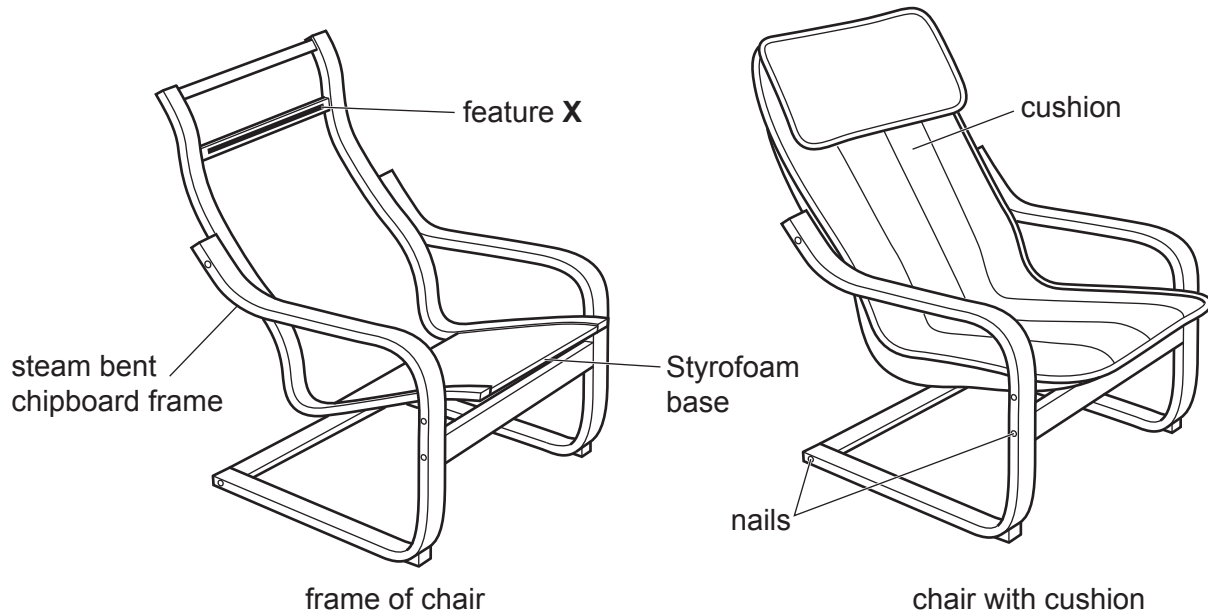

Fig. 4.1
- 4 Fig. 4.1 gives details of an incomplete design for a chair.